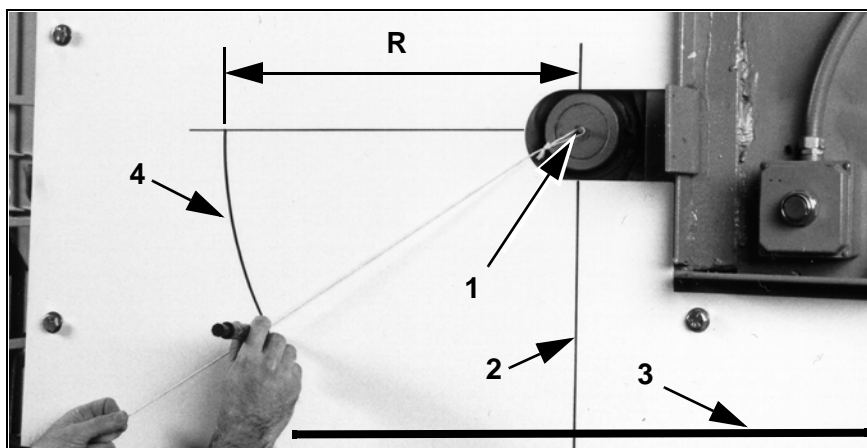

Fig. 1
1. Determine the centre point of the head pulley (1, Fig. 1) on the operator side.
2. Drop a perpendicular (2, Fig.1) to the lower conveyor belt level (3, Fig.1).
4. Draw the arc of a circle (4, Fig. 1) with radius R.